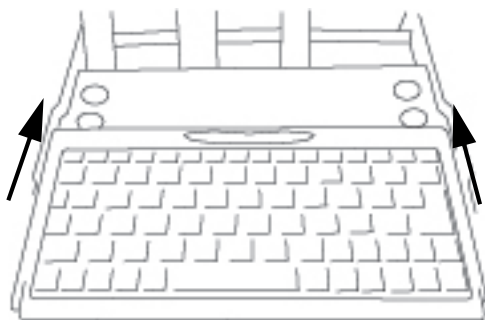

Figure 16 Sliding the keypad tray into the keypad holder
- 6 Attach the keypad cord clip  to the back of the TTC assembly: remove the white backing from the clip and affix the clip to the back of the TTC assembly as shown in Figure 16.